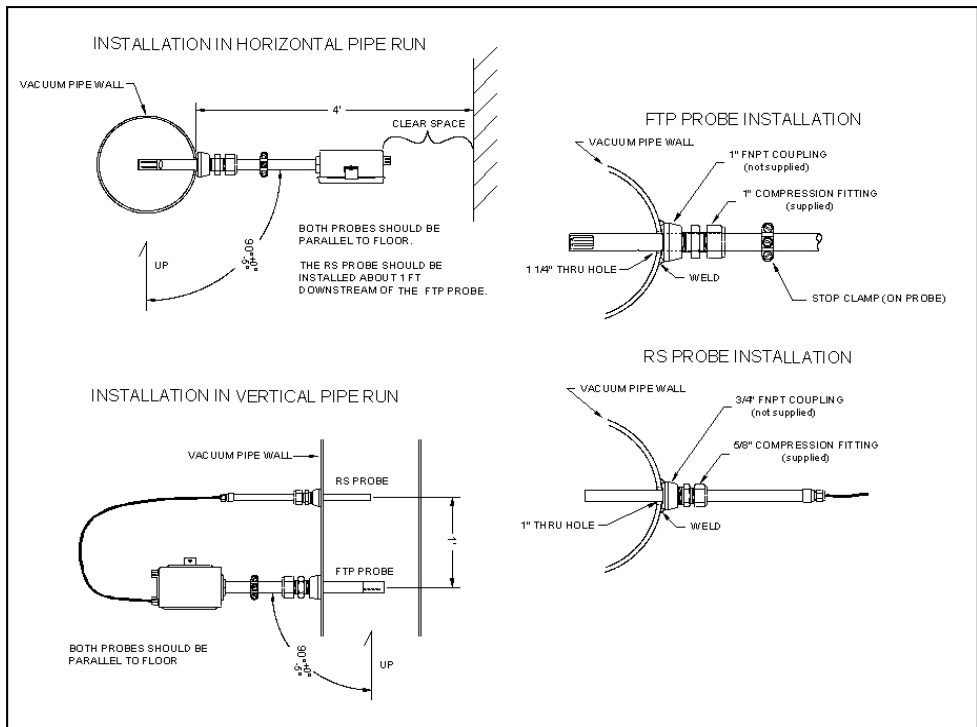

Figure 3 Probe Installation Detail
Check installation clearance. The installation location should allow sufficient clearance for ease of probe removal (for servicing), including the required clearance space for the hot tap, where used. Be sure there are no obstructions around the vacuum line that will interfere with probe insertion. Figure 3 shows the proper insertion angle. **THIS ORIENTATION IS IMPORTANT FOR PROPER OPERATION**, particularly if liquid water is expected to wet the wall surfaces of the probe(s).
2. Verify there are the necessary minimum probe insertion clearance four (4) feet- between pipe surface and any obstruction.
5. Make sure the probes are parallel to the floor (see Figure 3). Be sure location is accessible for probe removal and maintenance.